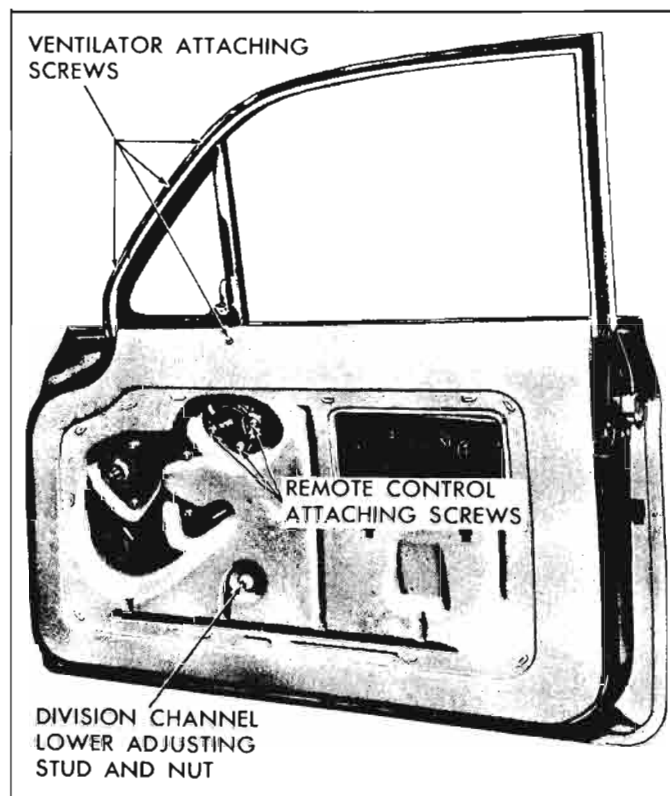

Fig 10-51—Front Door Ventilator and Remote Control Attachment
2. Remove ventilator division channel lower adjusting stud and nut (fig. 10-51).
4. Lower door window. Remove three (3) door window frame to ventilator attaching screws and one (1) inner panel to ventilator attaching screw (fig. 10-51).
1. To adjust ventilator division channel "in or out" or "fore or aft", remove door trim assembly and detach inner panel water deflector sufficiently to loosen division channel lower adjusting stud nut (fig. 10-51). Adjust stud in or out as required or position channel "fore or aft" as required, then tighten stud nut. Seal water deflector and install door trim and inside hardware.